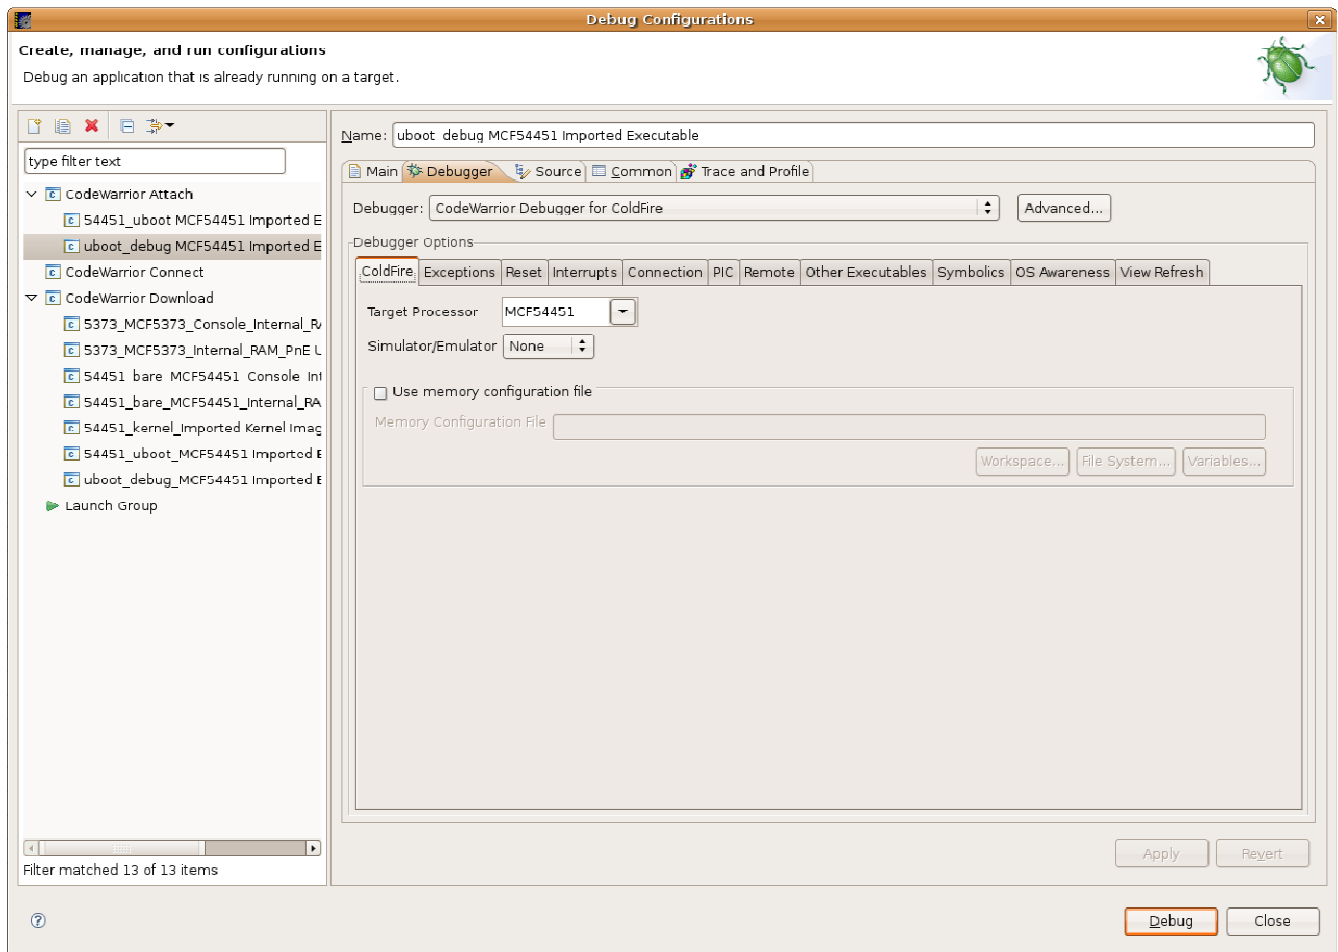

Figure-5 Debug configuration cont.
10) Click **Debugger** table. Choose Debugger “CodeWarrior Debugger for ColdFire”. Choose proper target processor. Please refer to Figure-5.